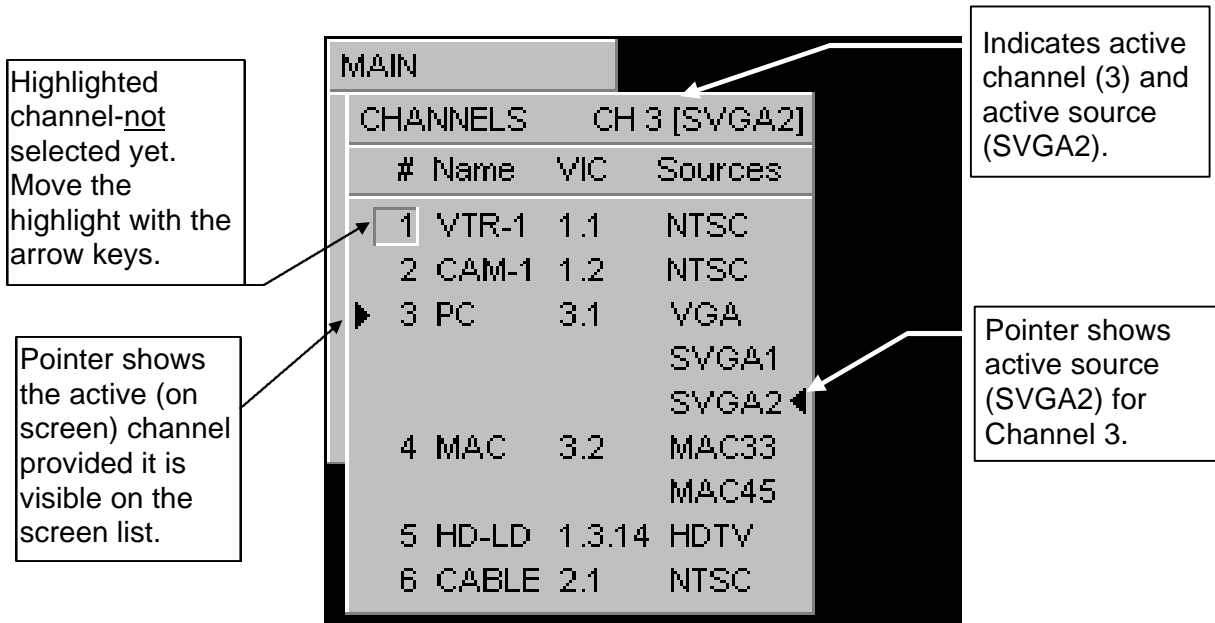

Figure 5-1. Channels Menu. **NOTE:** If a channel has more sources than can be shown on the list above, the last line indicates this with three periods (...).
- An “**Active**” channel is the one that is presently on the screen. A “**Highlighted**” channel is one that has been selected by pressing a channel number but has not yet been made “Active” by pressing Enter. Pressing the channel number “**Highlights**” the channel on the channel list and pressing Enter makes it “**Active**” (on screen). An illustration of an “**active**” and “**highlighted**” channel is shown in Figure 5-1, Channels menu.
A channel and source (source file) are selected from the Channels and Sources lists. **(NOTE:** “Source” is frequently used to indicate a “source file” that has been set up for a specific video source. See *Section 4.6 for a more detailed description of a channel, source, and source file.*). The Channels and Sources lists must first be edited to select a name for the new channel, the VIC to be used, and the source to be used. Figures 5-1 and 5-2 provide illustrations of the Channels list and the Sources list showing “active” and “highlighted” channels and sources. Be sure the projector is receiving the video source that it is to be set up for.
To edit a channel and source (*refer to Figure 5-1*):